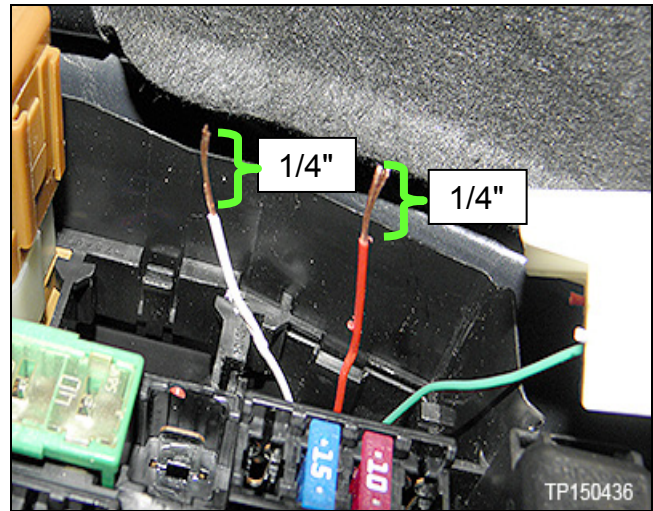

Figure 6
- Strip approximately 1/4" from the ends of both the red and the white wires (Figure 6).